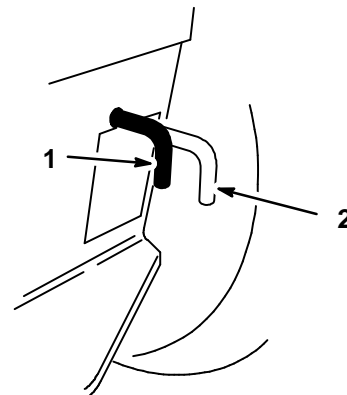

Figure 14
2. Move the drive control rod to the “PUSH” position. This disengages the drive system and allows the wheels to turn freely (Fig. 14).
1. Apply the brake, this moves the drive control rod to “OPERATE” and engages the drive system, or move the drive control to the “OPERATE” position (Fig. 14).